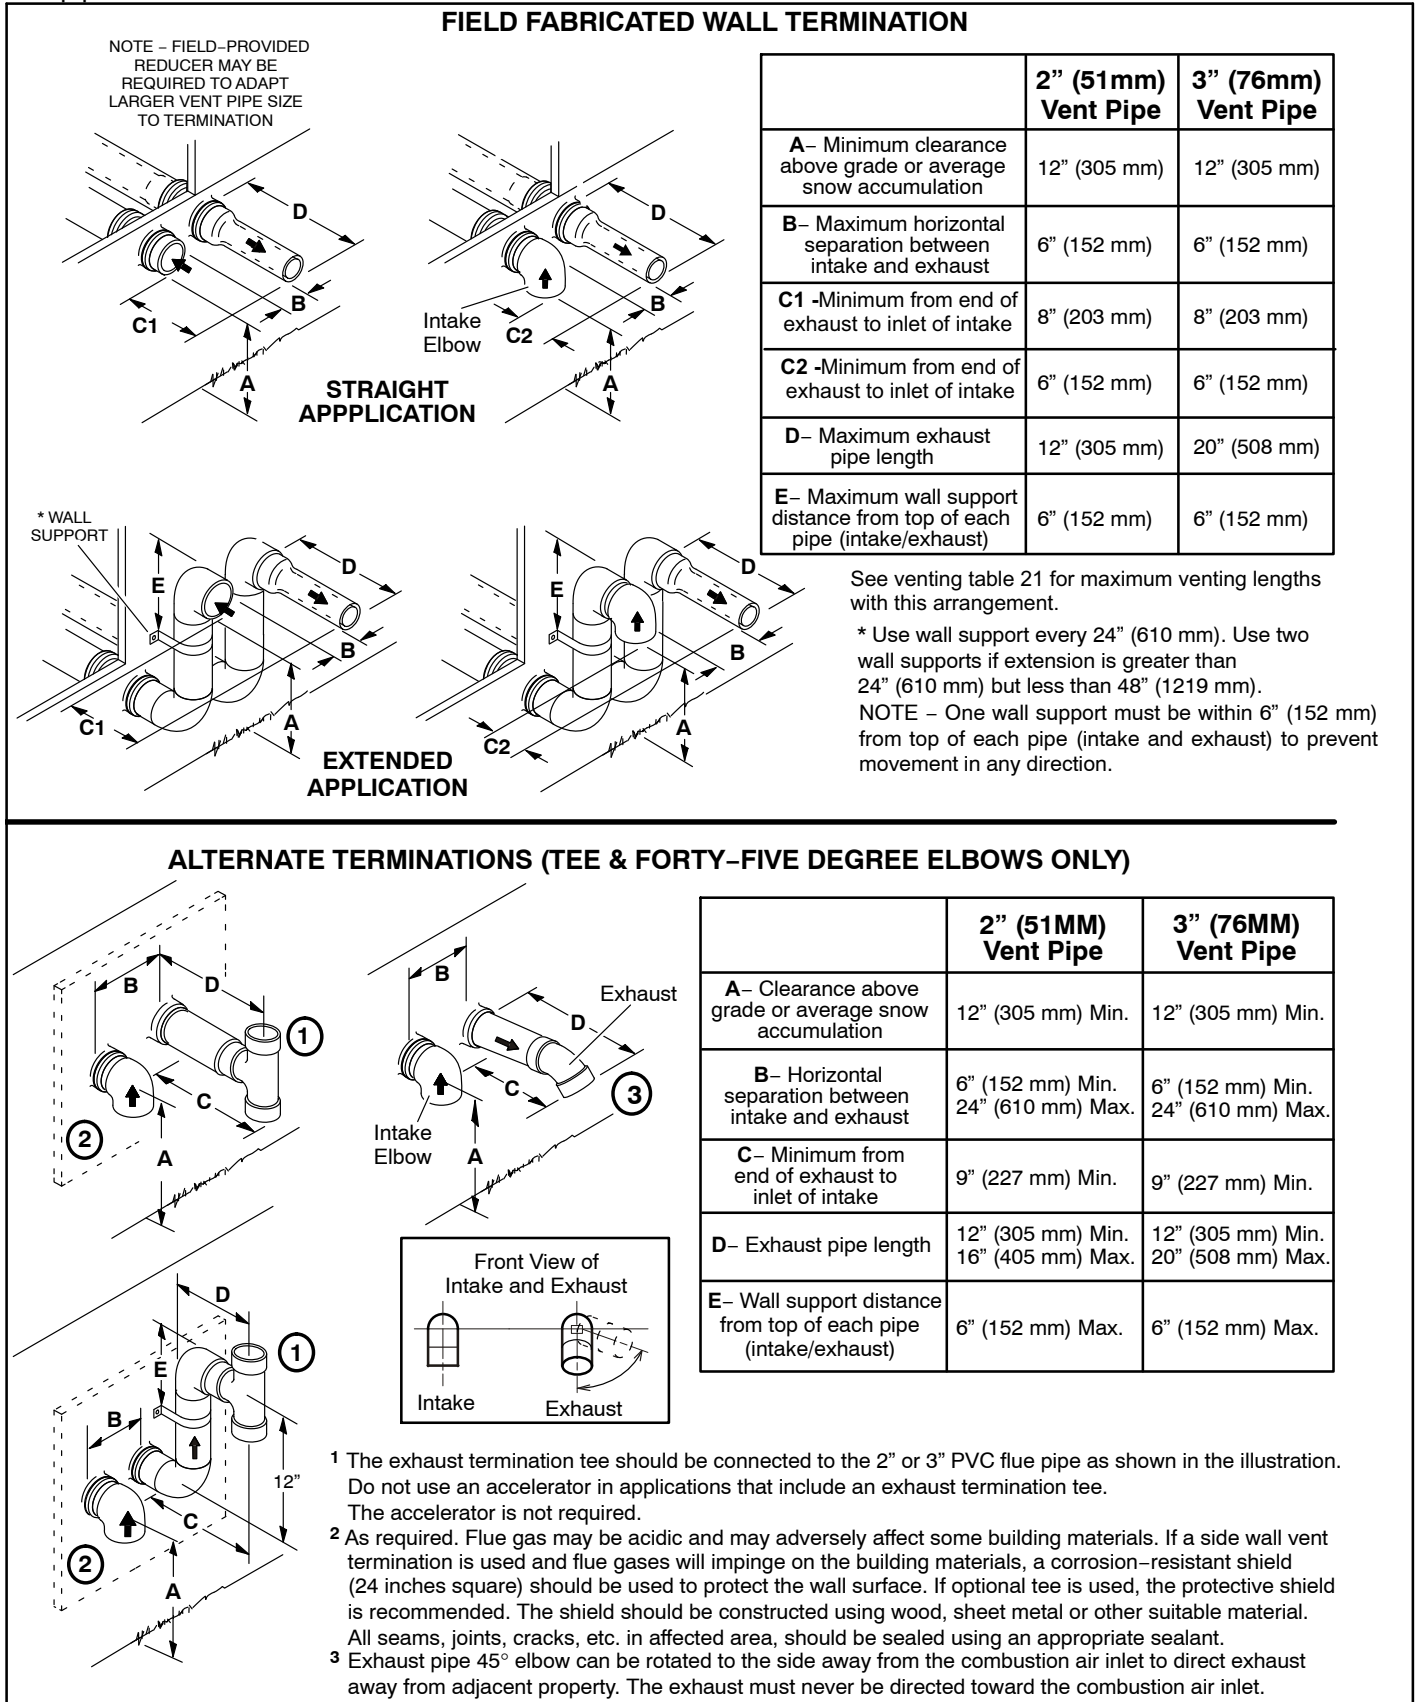

FIGURE 29
NOTE - Flue gas may be slightly acidic and may adversely affect some building materials. If any vent termination is used and the flue gasses may impinge on the building material, a corrosion-resistant shield (minimum 24 inches square) should be used to protect the wall surface. If the optional tee is used, the protective shield is recommended. The shield should be constructed using wood, plastic, sheet metal or other suitable material. All seams, joints, cracks, etc. in the affected area should be sealed using an appropriate sealant. See figure 29.
5. On field-supplied terminations for side wall exit, exhaust piping may extend a maximum of 12 inches (305MM) for 2" PVC and 20 inches (508MM) for 3" (76MM) PVC beyond the outside wall. Intake piping should be as short as possible. See figure 29.
6. On field-supplied terminations, a minimum distance between the end of the exhaust pipe and the end of the intake pipe without a termination elbow is 8" and a minimum distance of 6" with a termination elbow. See figure 29.
7. If intake and exhaust piping must be run up a side wall to position above snow accumulation or other obstructions, piping must be supported. At least one bracket must be used within 6" from the top of the elbow and then every 24" (610mm) as shown in figure 29, to prevent any movement in any direction. When exhaust and intake piping must be run up an outside wall, the exhaust piping must be terminated with pipe